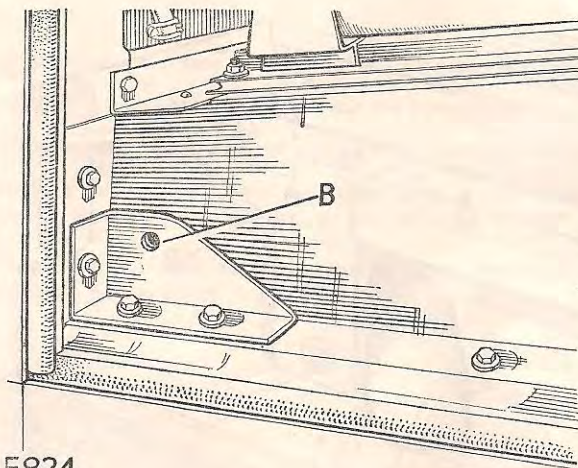

Fig. 7. Sill gusset in position. R.H. illustrated.
3. Secure the sill gusset into the corner position, with the original body fixing bolts as shown in Fig. 7.